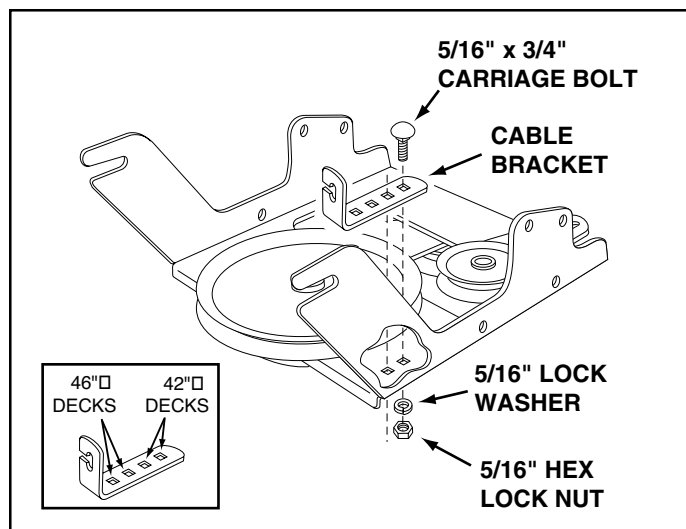

FIGURE 15
- Assemble the cable bracket to the clutch/idler assembly using two 5/16" x 3/4" carriage bolts, 5/16" lock washers and 5/16" hex locknuts. Use the two front holes in the cable bracket if your tractor has a 42" mower deck. Use the two rear holes if your tractor has a 46" mower deck. See figure 15.